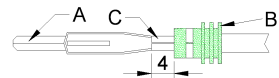

FIG.6
- Strip 4 mm of sheath and crimp the tab contact A and the wire seal B on the two feeding cables (fig.6)